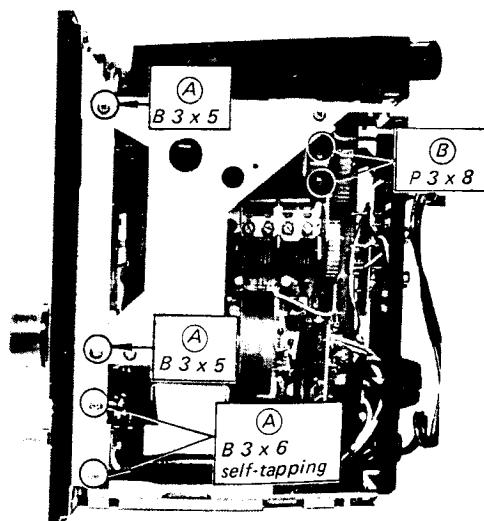
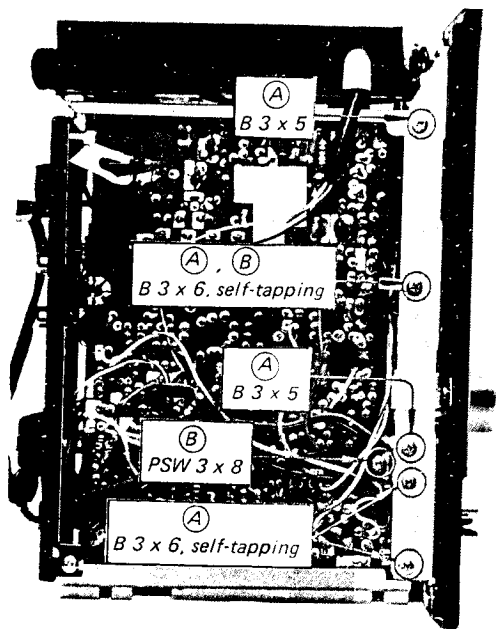

Fig. 2-4. Front subchassis removal
Fig. 2-5. Front subchassis removal (2)
2. Remove the nine screws (A) as shown in Fig. 2-4 and Fig. 2-5.
4. Loosen the two screws (B) as shown in Fig. 2-4.
5. Remove the two screws (B) as shown in Fig. 2-5.